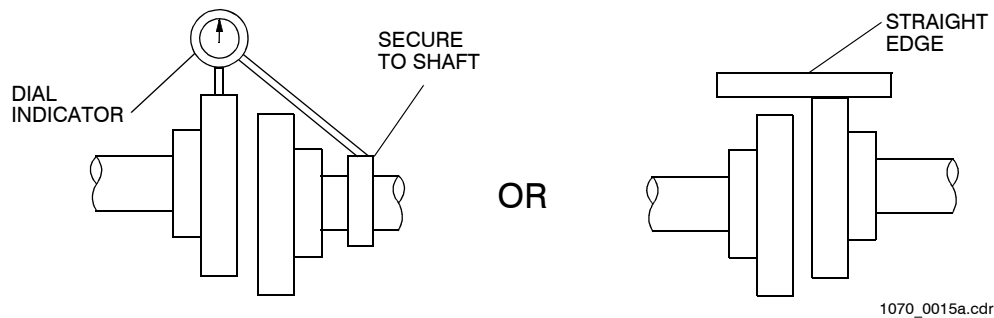

Figure 3-9. Checking for Parallel Coupling Misalignment
1. Attach dial indicator as shown in Figure 3-9.
4. If a dial indicator is not available, an alternate check may be made by using a straightedge, as shown in Figure 3-9.